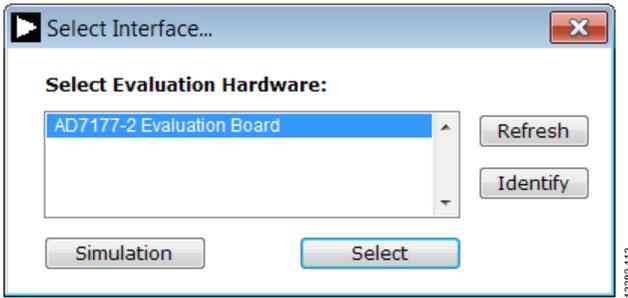
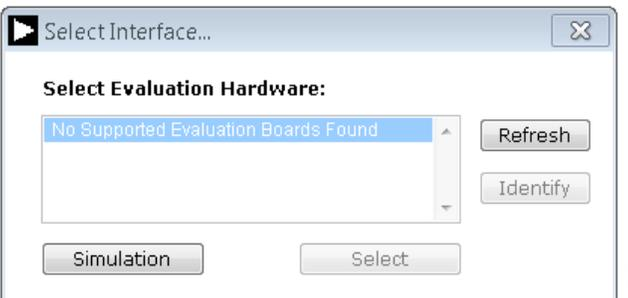
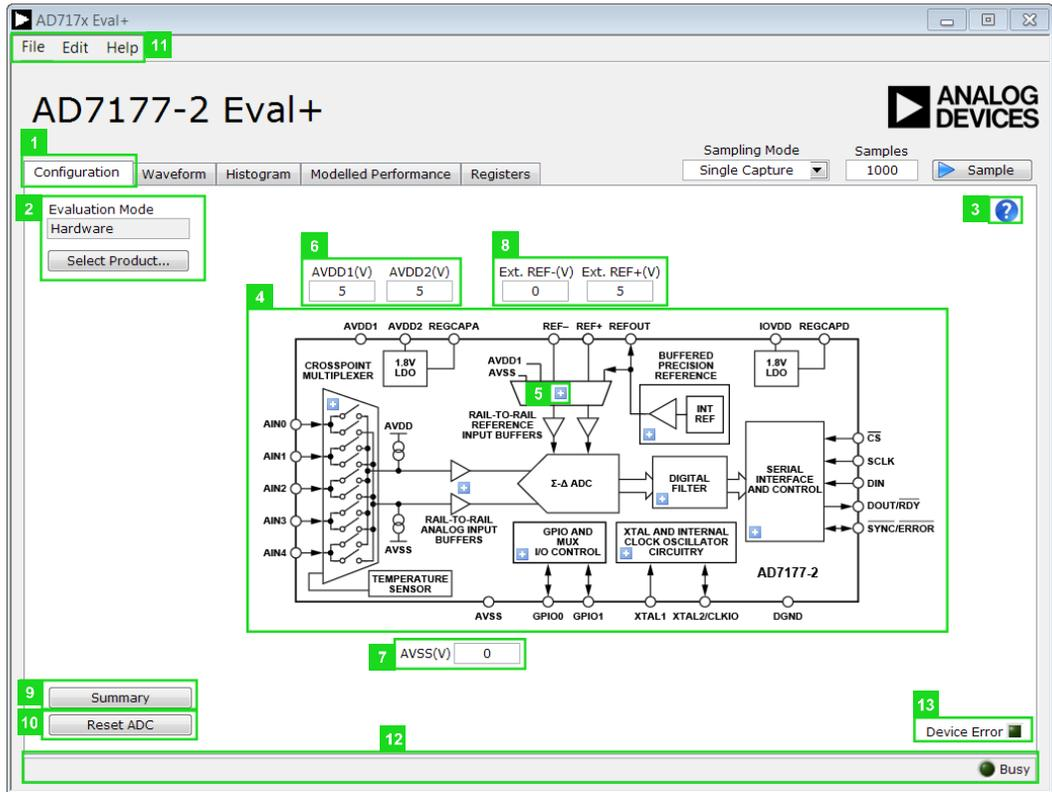
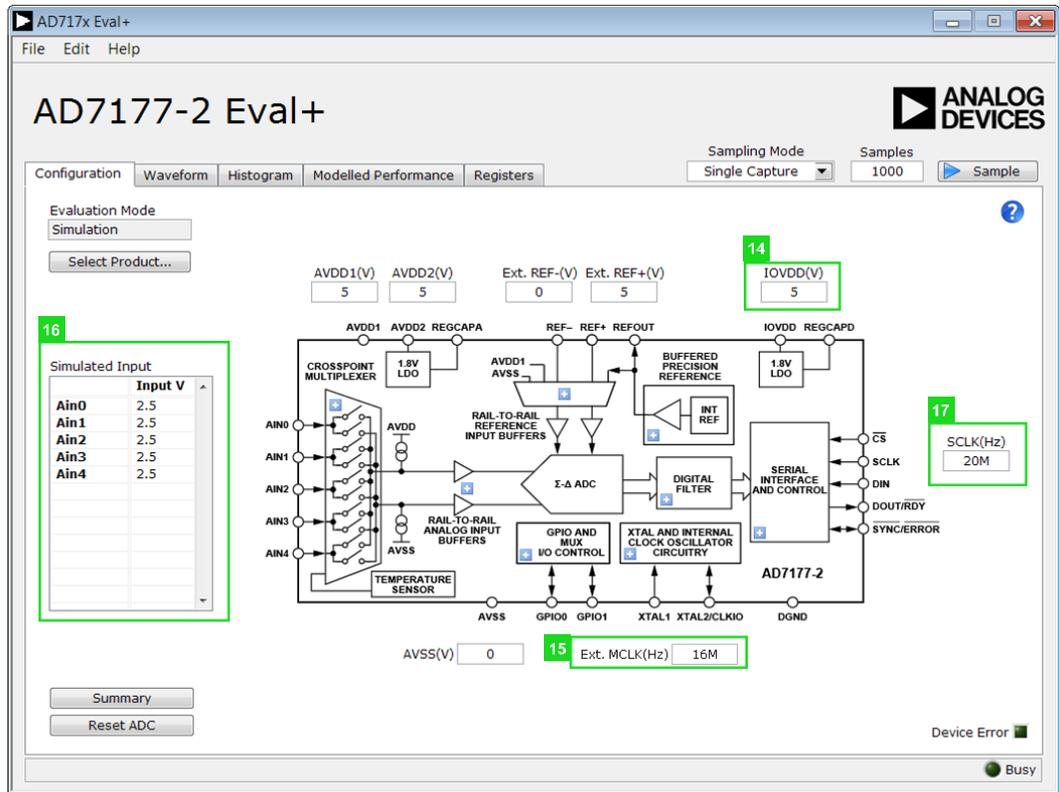

Figure 13. AD7177-2 Evaluation Board Selection
Figure 14. Evaluation Board Selection, No Board Connected
Figure 16. Configuration Tab of the AD717x Eval+ Software in Hardware Mode
Figure 17. Configuration Tab of the AD717x Eval+ Software in Simulation Mode
2. The dialogue box in Figure 13 appears; select **AD7177-2 Evaluation Board** and click the **Select** button. The main window of the software box displays as shown in Figure 16.
3. If the EVAL-AD7177-2SDZ evaluation system is not connected to the USB port via the SDP-B when the software is launched, the software displays the dialog box shown in Figure 14. Connect the evaluation board to the USB port of the PC; wait a few seconds, click **Refresh** and the option shown in Figure 13 appears.
Figure 16 shows the **Configuration** (1) tab when **Hardware** mode is selected and Figure 17 shows the **Configuration** tab when **Simulation** mode is selected. The controls highlighted in Figure 17 are only available in **Simulation** mode.
The **Evaluation Mode** (2) pane displays the evaluation mode in use. To switch between modes, click the **Select Product...** button, and the dialog box shown in Figure 13 appears.
The text fields labeled 6, 7, and 14 in Figure 16 and Figure 17 are input fields that are used to take the supply voltage levels selected for the AD7177-2. Checks are performed to ensure that the power supply voltage levels entered are within the specified limits. These power supply voltage levels are also used for the modelled performance to calculate the power dissipation.